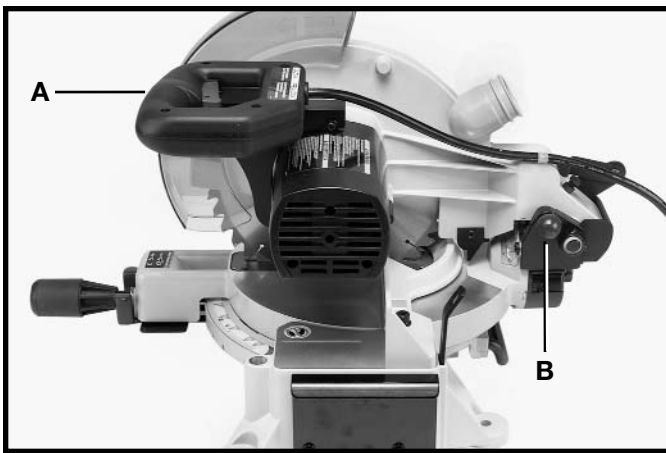

Fig. 5
1. Push down on switch handle (A) Fig. 5 and pull out cuttinghead lock knob (B).